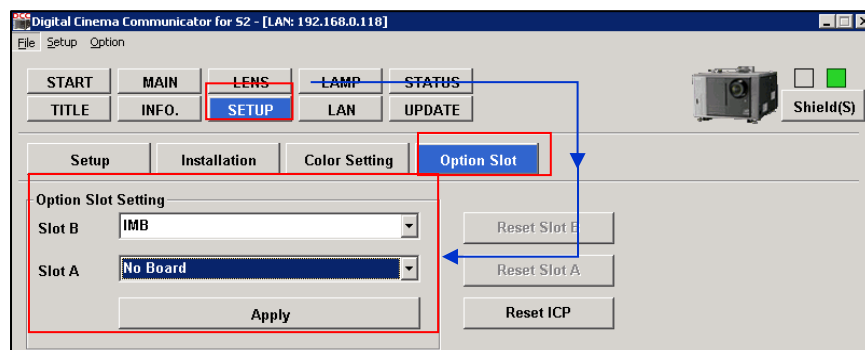

Figure 21: Option slot settings on NEC Digital Cinema Communicator
4. Select [Setup] → [Option Slot] on the Digital Cinema Communicator and select IMB for Slot B in Option Slot Setting (as shown in **Figure 21**).